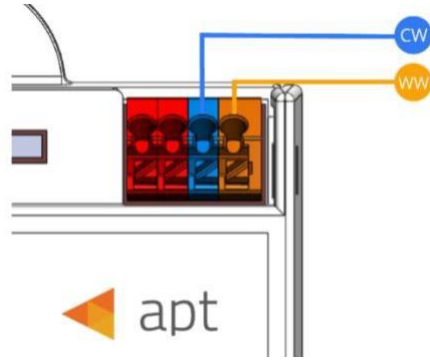

Figure 3 - Wiring APT-CV2-VA-SQ to Warm White/Cool White LED module
2. Changing the DMX Address Assignment does not change the physical wiring of the controller to the LED module. Please refer to Figure 3 for warm white/cool white wiring application.